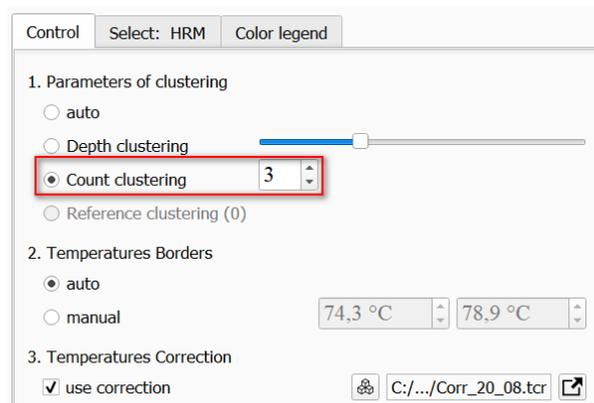

Figure 92 – Changing the number of clusters in the settings
- **Count clustering** – this setting allows you to analyze the protocol for a specified number of clusters. To apply the setting, move the cursor and left-click on the **Count clustering** switch, set the required number of clusters in the settings window (fig. 92).